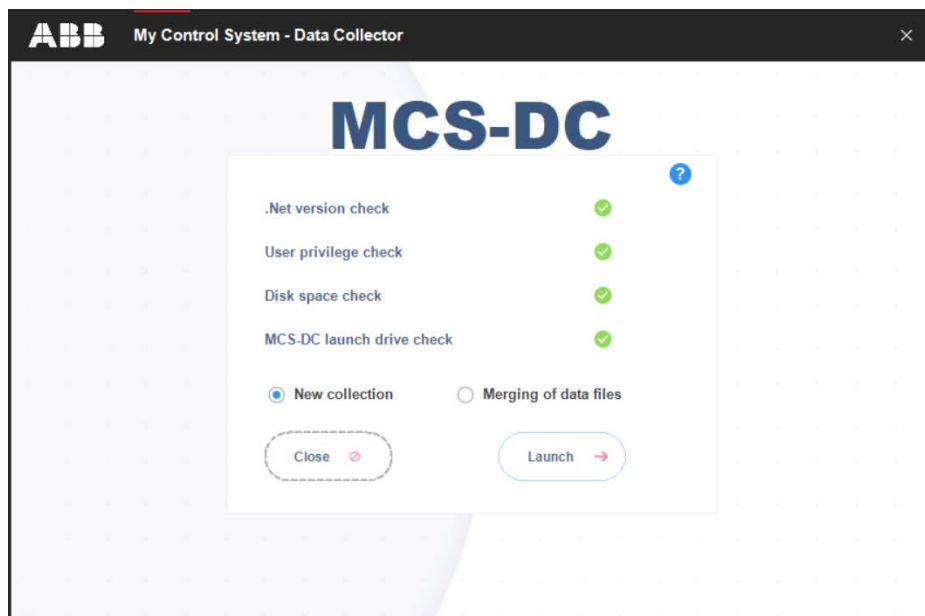

Figure 53. Launch Node Checks
2. Double-click the **MCS-DC_Launcher.exe**, to launch the tool. It is present inside the unzipped MCS-DC folder. The initial screen appears as shown in Figure 53. MCS-DC tool runs the below checks on the launch node. If the checks are passed, a Green tick mark is shown, click the **Launch** button to proceed with data collection. If the checks fails, a Red cross mark is shown, user has to fix the issue and launch the MCS-DC tool again.